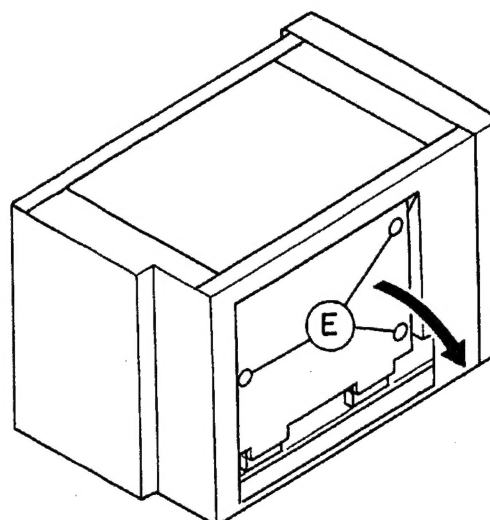

Fig. 3
- (1) Remove the 3 screws (E) shown in Fig. 3.
- (2) Open the signal PC board assembly towards yourself as shown by the arrow.
- (3) Grasp at the position of arrows (1) and pull in the direction of arrow (2) to remove the signal PC board assembly. (Removing the hinge connectors one by one facilitates the removal.)